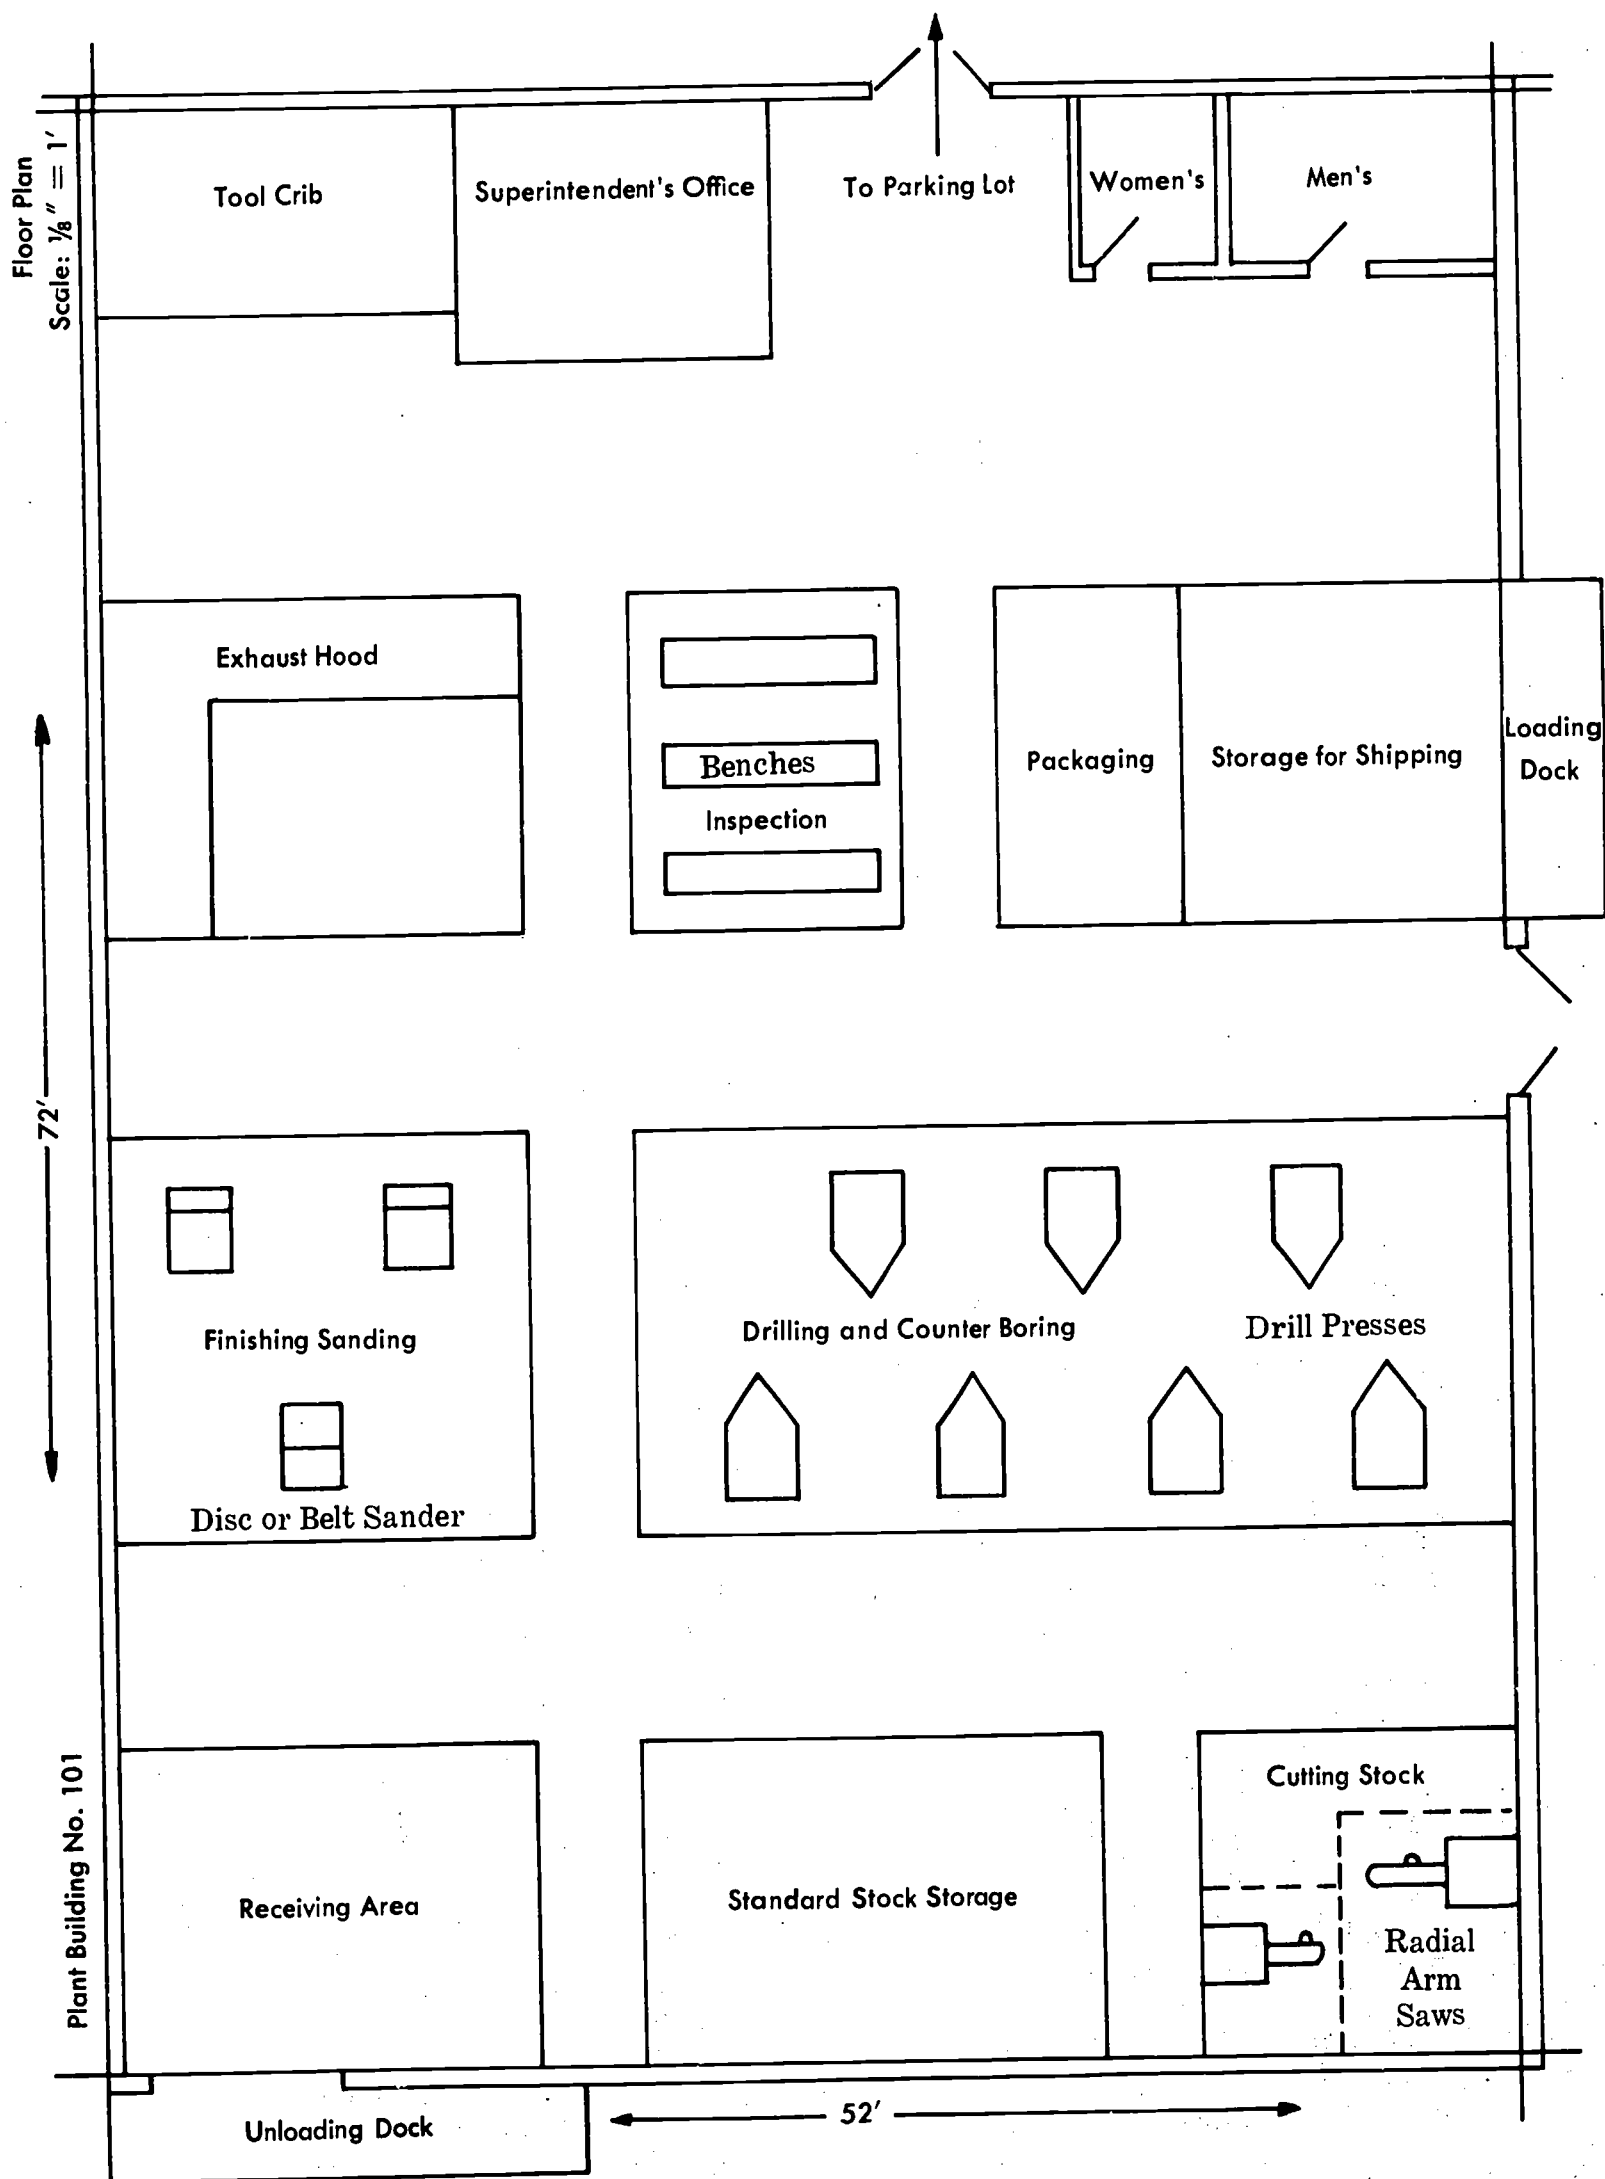

Fig. 46-1. Floor Plan
4. A possible solution for the plant layout is Fig. 46-1, Floor Plan. *The teacher should specify (locate) where to place the loading dock.*